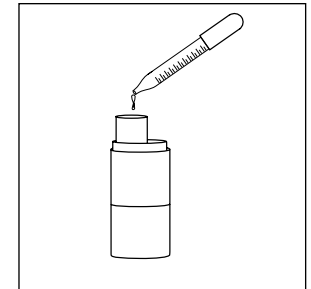

Figure 4
6. Assemble clean nebulizer parts by placing baffle down in medication cup. Holding cup stationary, screw on nebulizer cap. Add prescribed medication through the opening on cap using a medicine dropper or pre-measured dose container (**Fig. 4**).